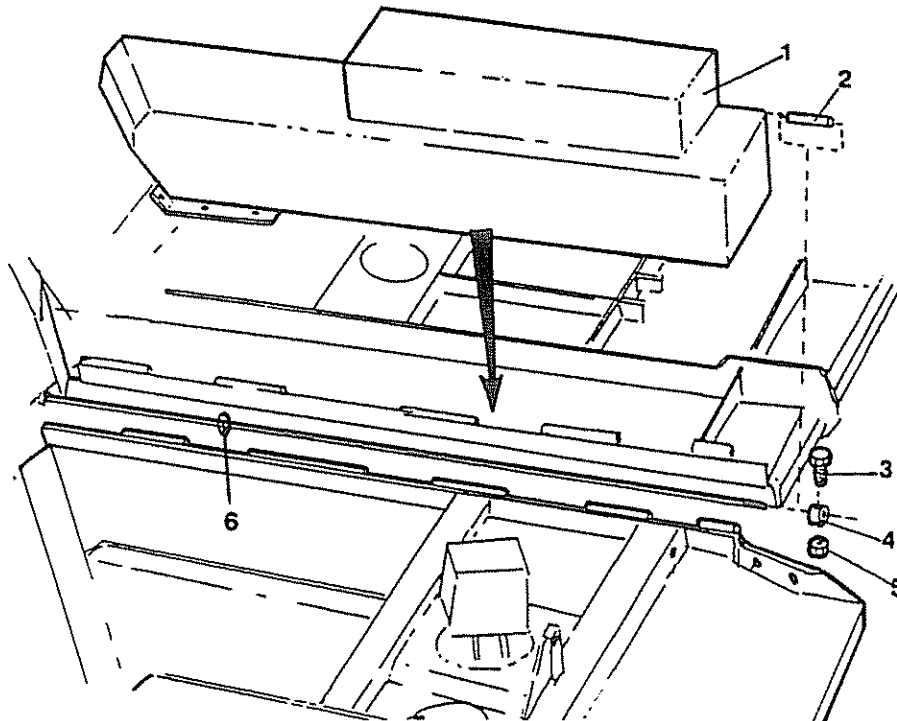

FIGURE 4. Wing or Counter Weight Attachment
9. Install Right Wing and Left Wing or Counter Weight (#1). Align hinges and insert Hinge Rod (#6) from front of machine. (To facilitate installing hinge rod, insert a long 3/4" bolt or rod through the first few rear hinges. This will keep the wing in alignment while inserting rod.) Secure Rod using Spacer (#2) when using Counter Weight, Bushing (#4), 3/8 x 2 bolt (#3), and locknut (#6). Figure 4.